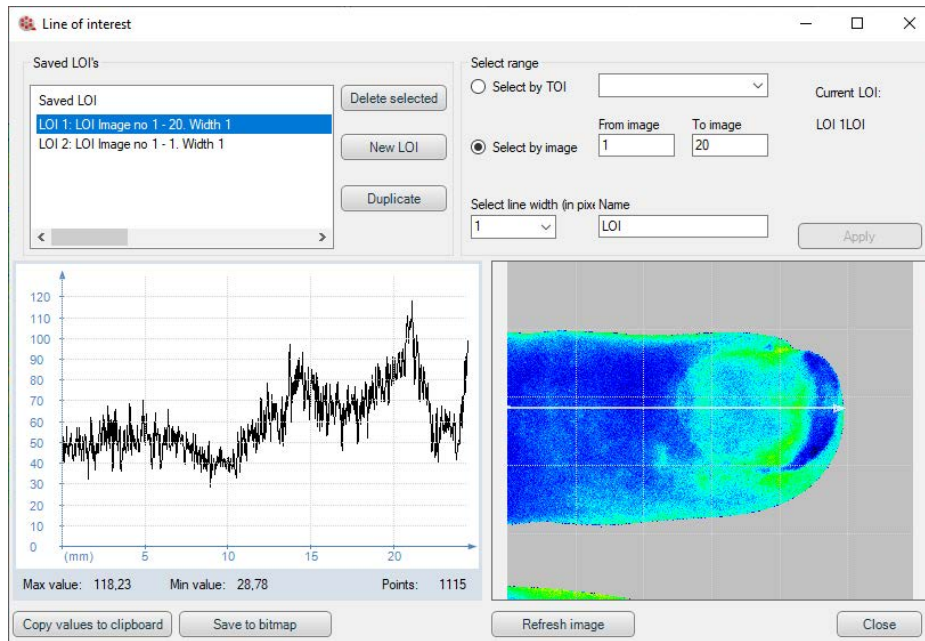

Figure 7-10 Line of Interest dialog.
1. Click the LOI icon . The dialog in Figure 7-10 will open.